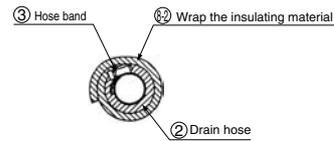

Figure 16
- (5) Insulate the drain hose ② fixed by the procedure (4) using the attached insulating material ⑥. Wrap the entire surface over the hose band on the drain hose. (Figure 16)